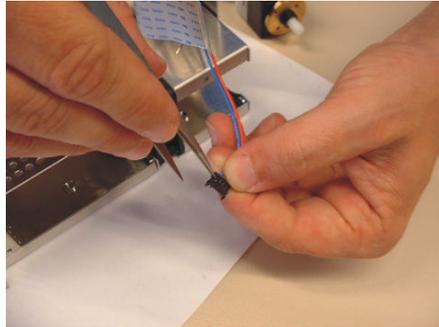

Figure 1-28
9. Ply cable latch cover off. Ply sides of latch cover outward with tweezers and then pull cable latch cover toward rear (see Figure 1-28).